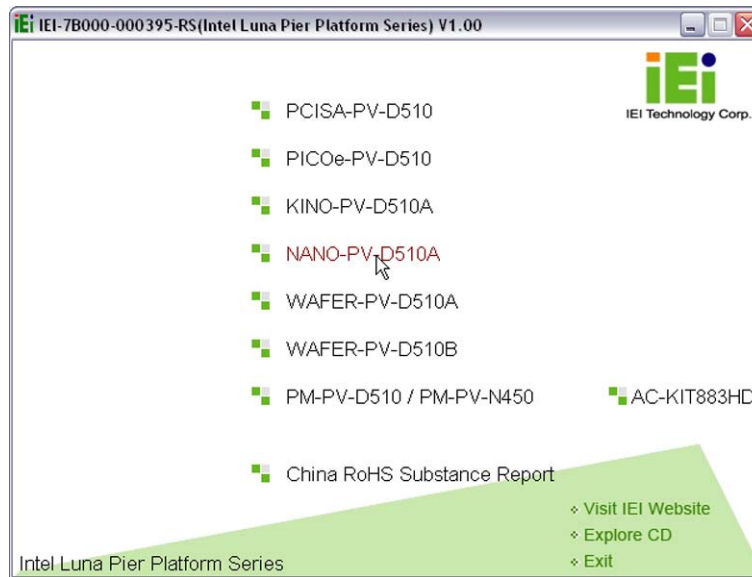

Figure 4-21: Introduction Screen
Step 2: The driver main menu appears (Figure 4-21).